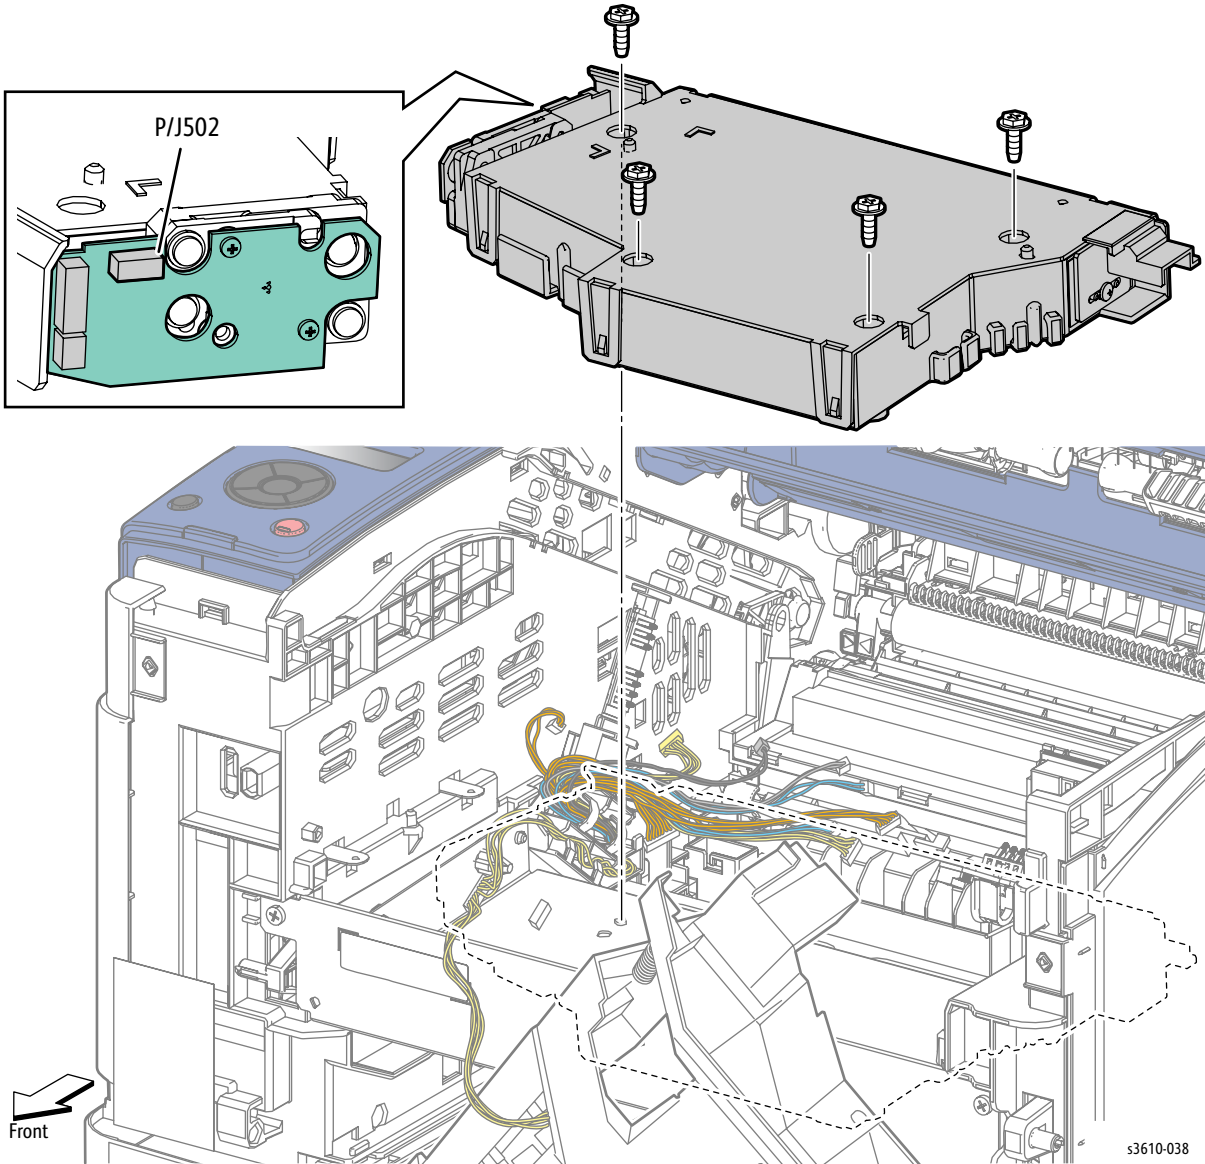

Figure 4
7. Remove the ROS Assembly. (Figure 4)